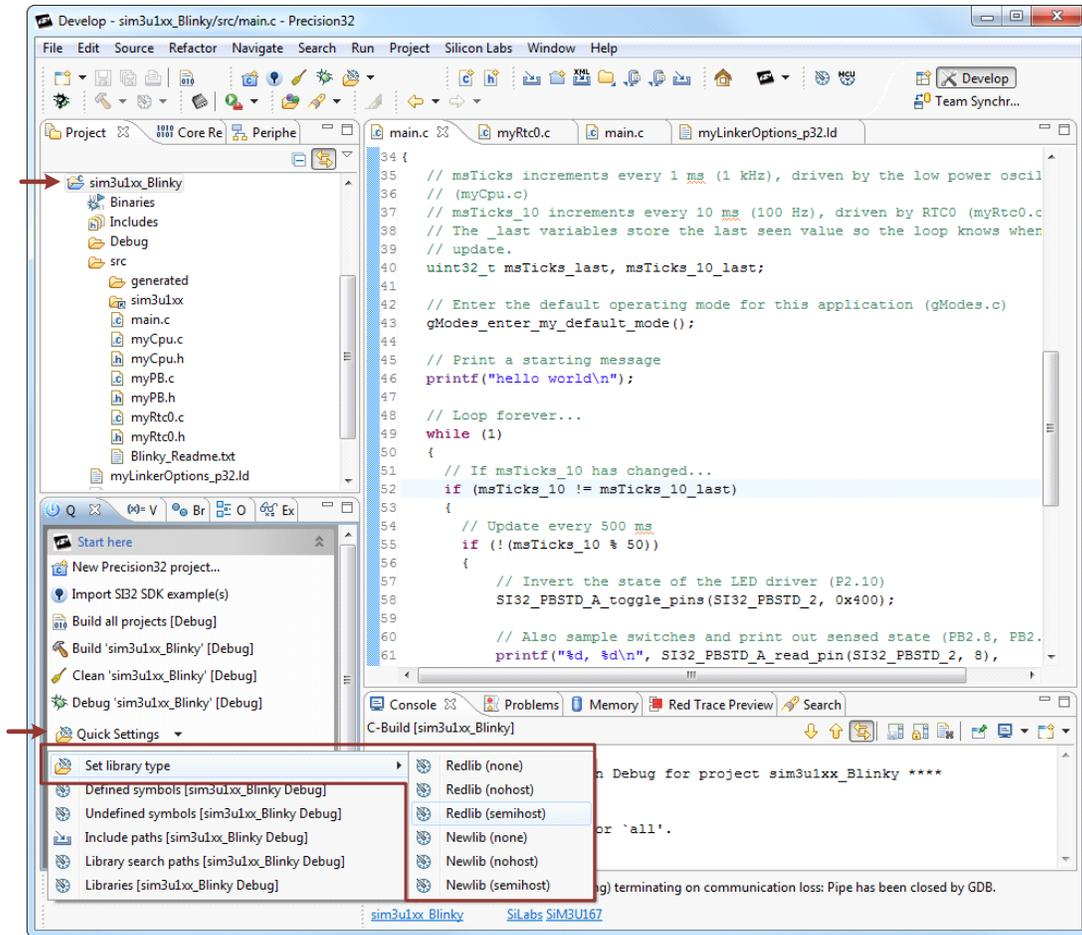

Figure 4. Using the Precision32 IDE to Select the Project Library
3. Click on **C/C++ Build** → **Settings** → **Tool Settings** tab → **MCU Linker** → **Target** and select the desired library from the **Use C library** drop-down menu. Figure 4 shows this dialog in the Precision32 IDE.